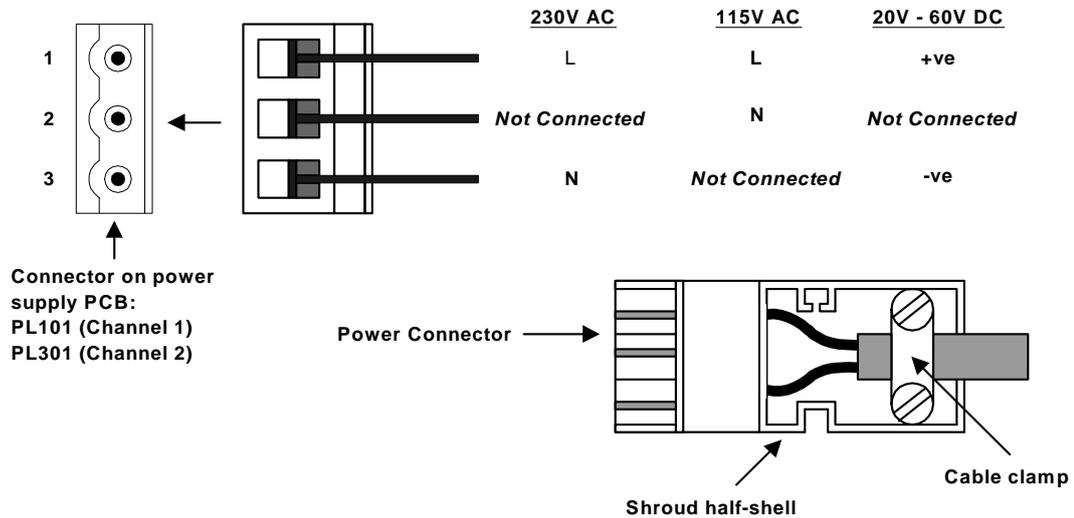
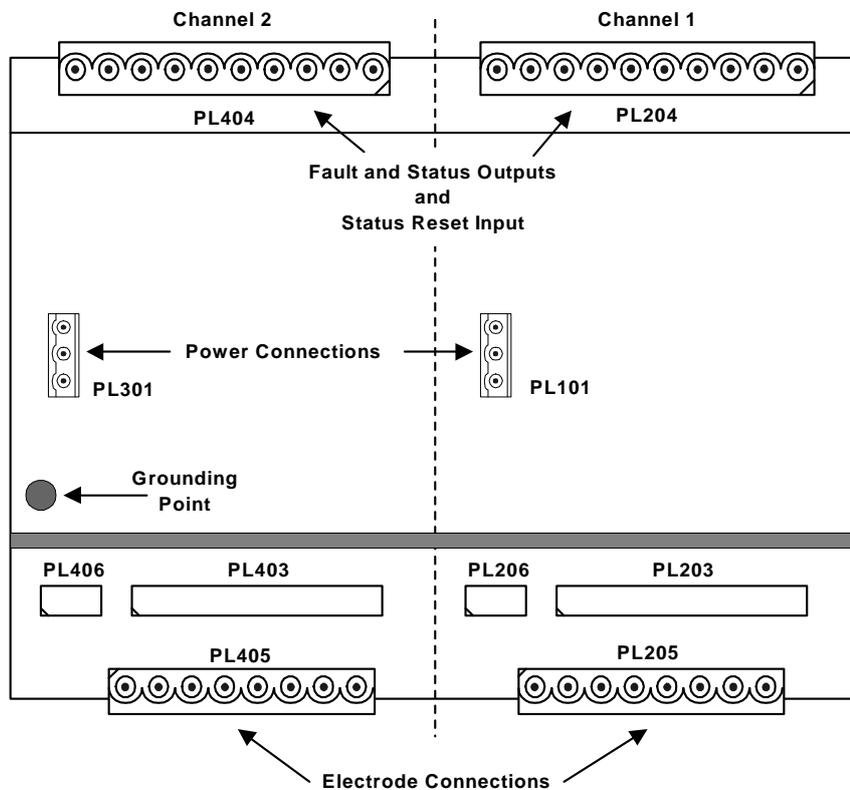

Figure 3.13: Power supply connections
Figure 3.14: Connector locations on front panel PCB
The connections for these power supplies are shown in Figure 3.13. Connector locations are shown in Figure 3.14 on page 3-16.
- 5 Fit the cable to a 3-way power connector by screwing in the crimped-on pins, in accordance with Figure 3.13
- 1 Take the front panel and, by referring to Figure 3.14, plug the cables for channels 1 and 2 into the relevant connectors on the PCB